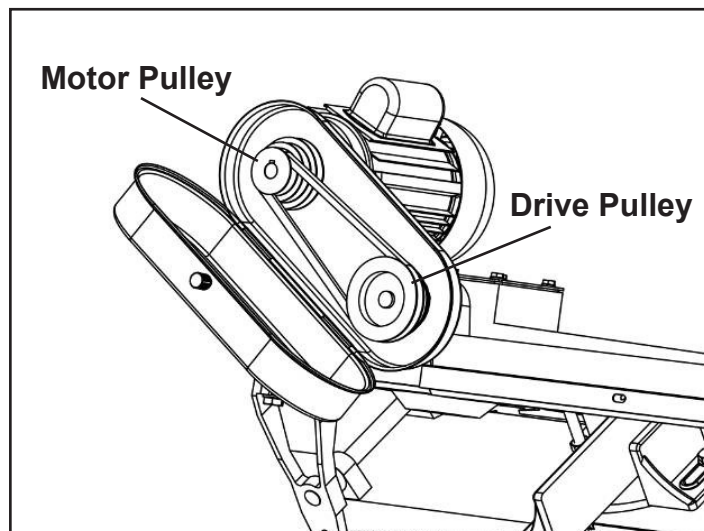

FIGURE 8
1. Open the pulley cover and slide the motor pulley over the motor shaft. Make sure to engage the motor pulley to the shaft key. Largest pulley step is closest to the motor. SEE Figure 8.
2. Install the drive pulley on the shaft closest to the gear box. Smallest pulley step is facing downward. SEE Figure 8.